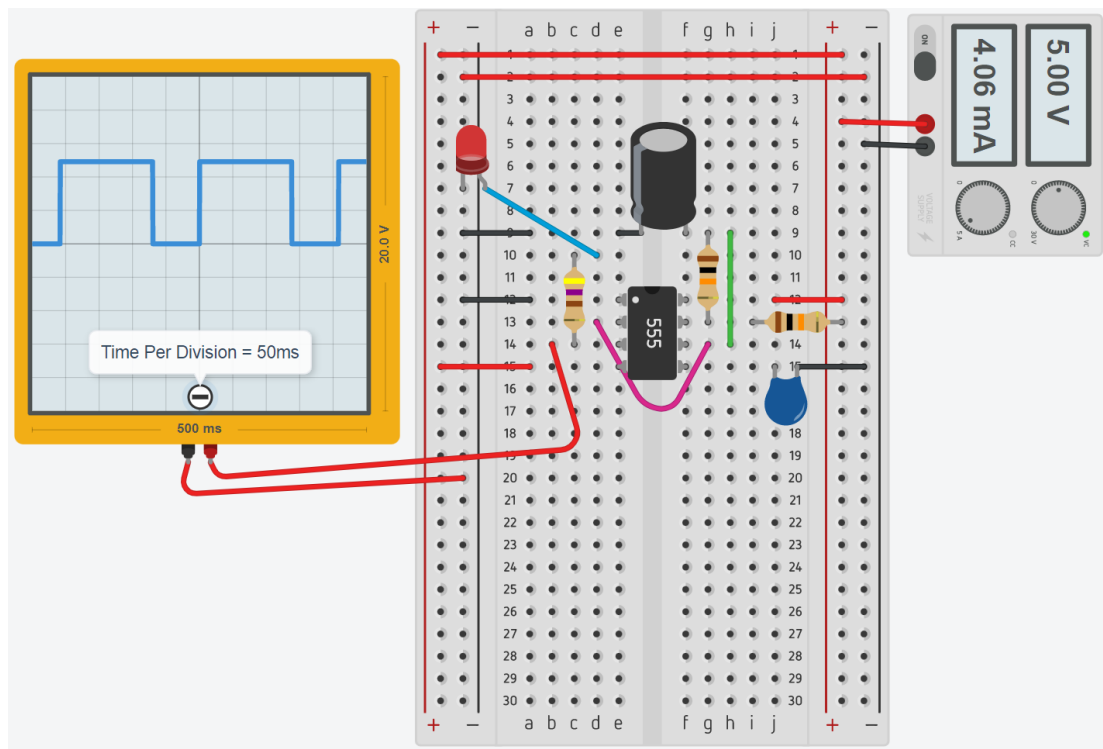

Figure 17: Tinkercad Circuit with oscilloscope output
6. In this procedure, we are tasked with building an astable multivibrator with Tinkercad, using a 555 IC. In Figure 17, we can see the Tinkercad circuit, along with the oscilloscope output. To find the frequency, we multiply the Time Per Division (50ms) by the number of squares inside the wave form, which is ~ 2.75 . This gives us 137.5 ms. Then we convert time \Rightarrow frequency, which is $\text{Frequency} = 1/\text{time} \Rightarrow \text{Frequency} = 7.272 \text{ Hz}$